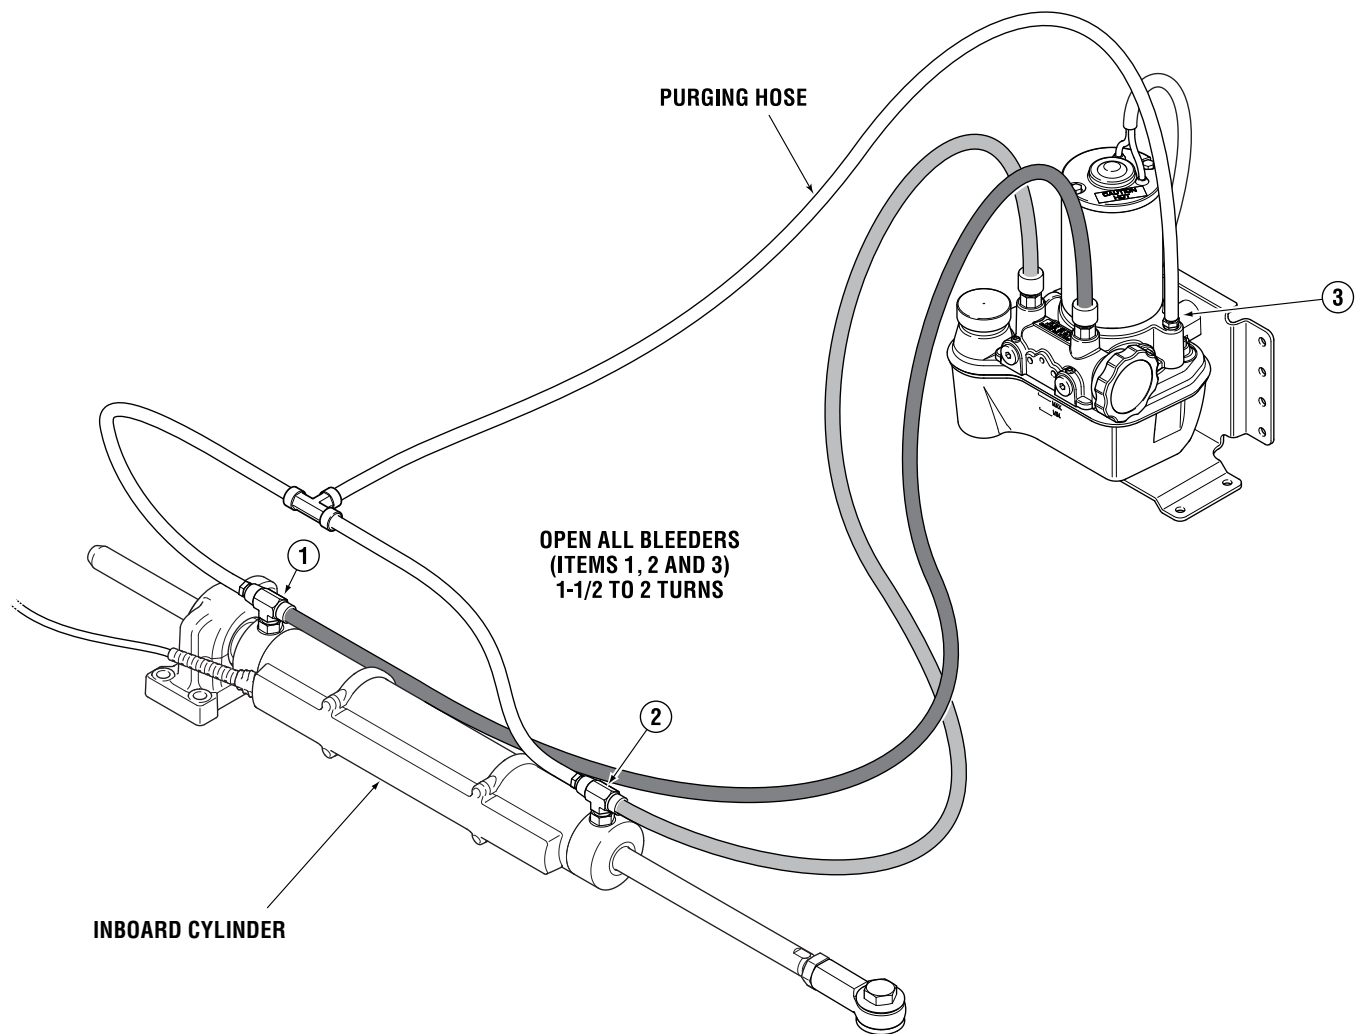

Figure 7-6.
2. Connect the purge hose as shown in figure 7-6.
Failure to open the pump bleed fitting (item 3 in figure 7-6) may cause the purge hose to rupture.